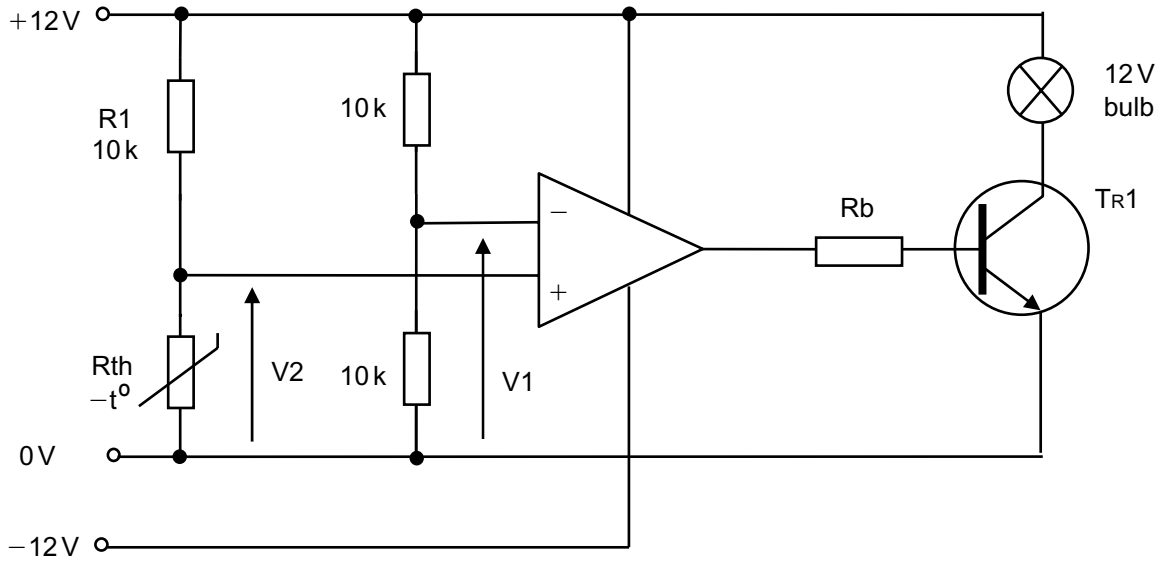

Fig. 10(a)
10 (a) Fig. 10(a) shows a prototype op amp based circuit for a system to keep newly hatched chicks warm. The system controls a 12 volt bulb that will produce sufficient heat to maintain room temperature.
- (i) State whether the comparator based circuit shown in Fig. 10(a) is an open loop or closed loop control system and briefly justify your answer. [2]
- (iii) Calculate the voltage V_1 in the circuit shown in Fig. 10(a) and calculate the voltage V_2 when the resistance of the thermistor R_{th} is $4.2k\Omega$ at 15°C . [3]
- (iv) If the transistor TR_1 in Fig. 10(a) has a current gain (h_{FE}) of 60 and a V_{be} of 0.6V , calculate the required value of R_b that will allow the bulb to operate with a current of 120mA . Assume that the output voltage of the op amp matches the supply voltage. [3]
- (v) With reference to V_1 and V_2 describe the operation of the circuit shown in Fig. 10(a) under both hot and cold conditions. [3]
(b) A modification has been suggested for the circuit shown in Fig. 10(a) where the transistor and 12 volt bulb are to be replaced with a 24 volt heater and suitable driving circuitry.